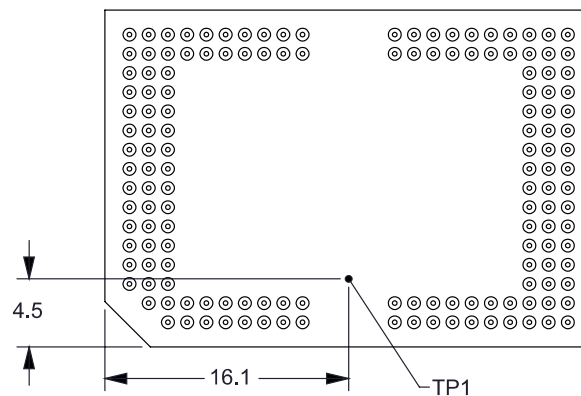

図 7-4. DMD Thermal Test Points
Relationship between array temperature and the reference ceramic temperature (thermocouple location TP1 in 図 7-4) is provided by the following equations:
- T_{CERAMIC} = measured ceramic temperature, TP1 location in 図 7-4 (°C)
- Q_{ARRAY} = total power, electrical plus absorbed, on the DMD array (W)
- $Q_{\text{ELECTRICAL}}$ = nominal electrical power dissipation by the DMD (W)